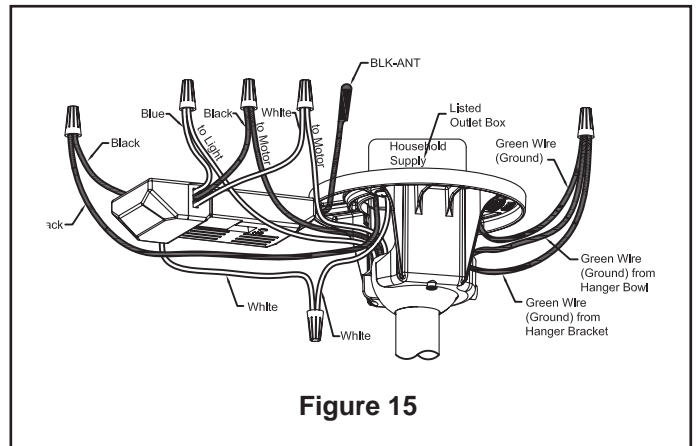

Figure 15
4. Connect green wires from hanger bracket and hanger ball to bare (ground) wire using wire connector supplied. Connect black wire from receiver unit marked "AC IN L" to black supply wire using wire connector supplied. Connect white wire from receiver unit marked "AC IN N" to white supply wire using wire connector supplied. Connect white wire from receiver unit marked "TO MOTOR N" to white wire from fan using wire connector supplied with receiver. Connect black wire from receiver unit marked "TO MOTOR L" to black wire from fan using wire connector supplied. Connect blue wire from receiver to the blue fan light wire using wire connector supplied. (Figure 15)